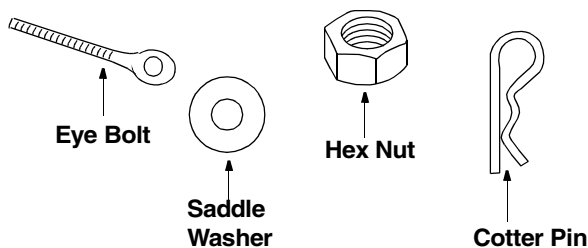
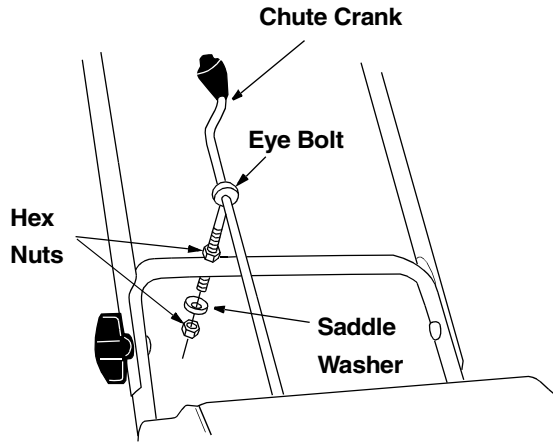

Figure 2: Hardware Pack
Figure 5
(Items 2 to 5 are illustrated in Figure 2.)
- Thread one 5/16” hex nut half way onto the eyebolt. See Figure 5. All necessary hardware is included in the hardware pack shipped with your unit. See Figure 2 for more details.